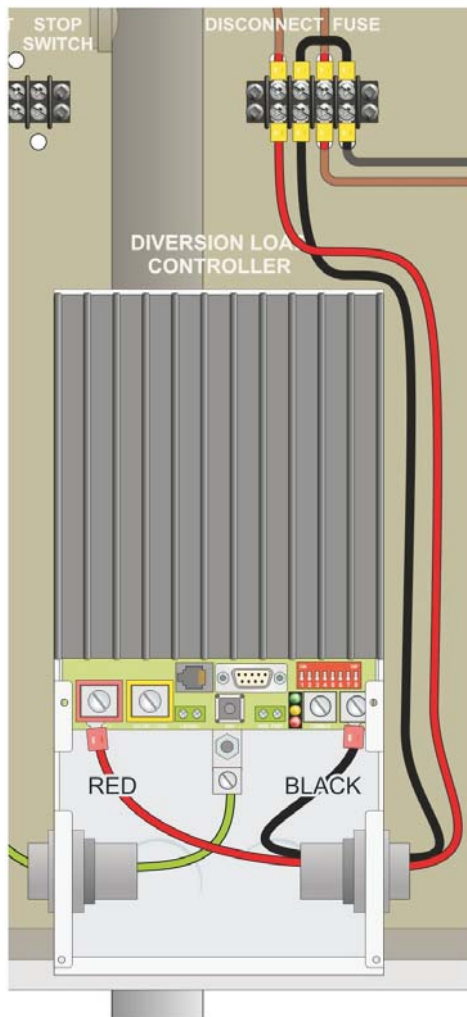

Figure 6-19:
3. Crimp fork lug connectors to the red and black wires and secure them to the two, left most connection points on the bottom row of the PV array terminal block as illustrated in Figure 6-19. The color of each wire should match the wiring on the opposite side of the terminal block (red on the far left and black on the inside left). Do not connect wires to the battery wires at this point. Be sure to crimp the connections using the appropriate sized connectors.